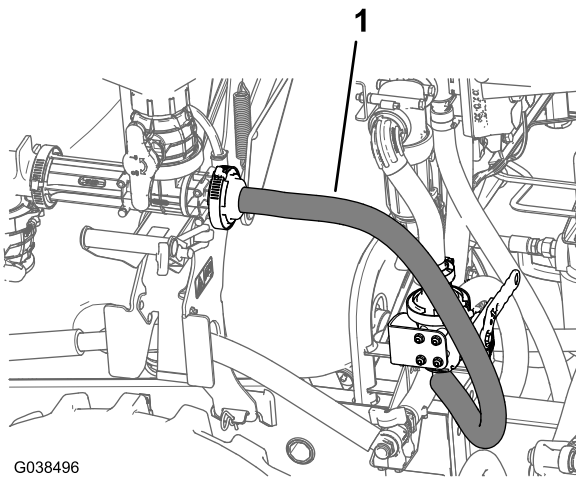

Figure 102
3. Route the eductor supply hose to the bottom of the eductor-shutoff valve as shown in Figure 102.
6. Tighten the flange clamp that secures the barbed fitting of the eductor supply hose to the flange of the eductor (Figure 102).